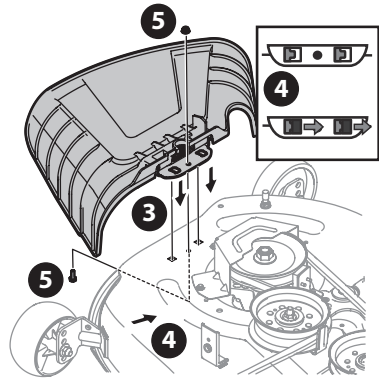

Figure 18
3. Place the chute deflector on the deck, be sure to insert the tabs on the chute deflector into the holes on the deck (Figure 18).
4. Slide the chute deflector toward the rear of the tractor until the bolt hole in the chute deflector aligns with the hole in the deck (Figure 18).
5. Secure the chute deflector in place with the flange lock nut and hex screw removed in Step 2. Tighten to 102-124 in-lbs (12-14 N-m) (Figure 18).